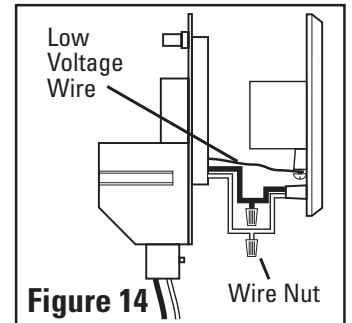

Figure 14
3. Connect the low voltage wire to the terminal screws on the rear of the wall inlet. Second connect the black wire from the supply to the black wire of the inlet, then connect the white wire from the supply to the white wire of the inlet. Use approved electrical wire nuts for all connections (**Figure 14**).